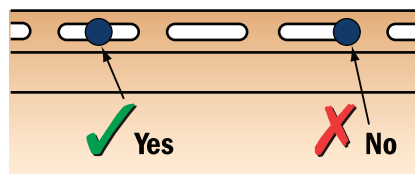

Figure 2. Proper and improper fastener locations.
- Position nails in the center of the nailing slot (Figure 2).